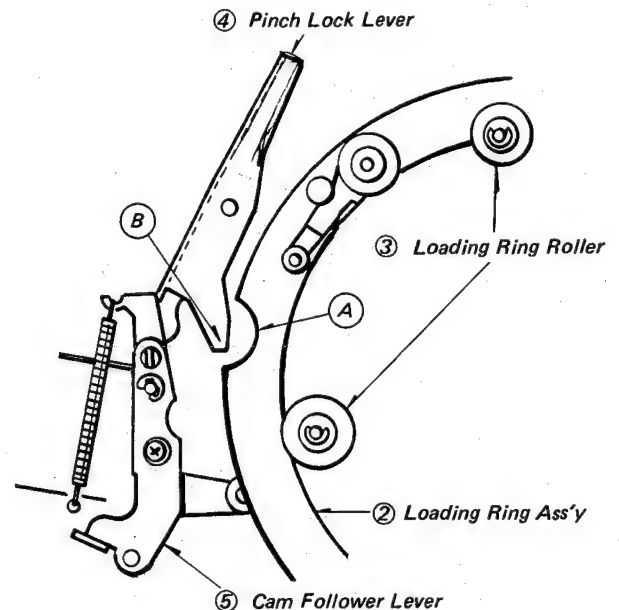
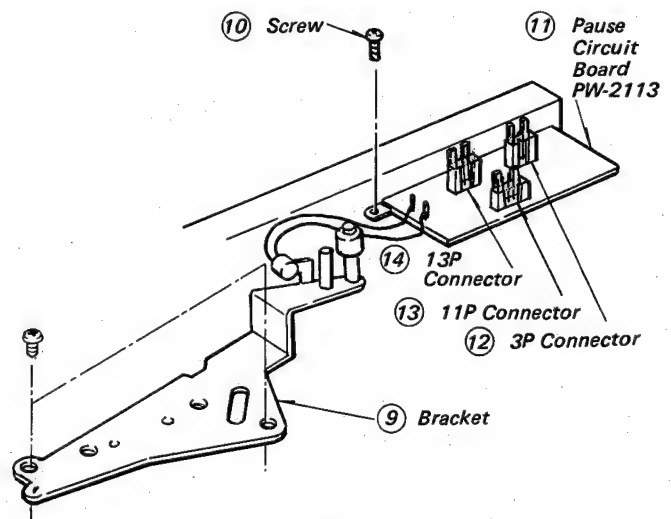

Fig. 5-60 Loading Ring Removal.
Fig. 5-61 Loading Ring Removal.
5. Turn the loading ring ② until the point A on the loading ring fits together with the point B on the pinch lock lever ④ (see Fig. 5-60).
8. Unsolder the wires on the pause board PW-2113 (see Fig. 5-61).
9. Unplug the 3P connector ⑫, 11P connector ⑬ and 13P connector ⑭ from the pause board PW-2113 (see Fig. 5-61).
10. Loosen the screw ⑩ and remove the Pause board PW-2113 (see Fig. 5-61).
11. Remove the two screws holding the bracket ⑨.
12. Replace the loading ring assembly ② in the position shown in Fig. 5-60.
CAUTION: In removing or installing the Bracket ⑨ (see Fig. 5-61), care should be taken not to damage the wires.
5-2-38 Replacing the Capstan Motor (see Fig. 5-61, 5-63)
3. Remove the guide pulley flat belt (1).
4. Remove the capstan flat belt (2) from the motor pulley (4).
5. Loosen the two set screws (10) holding the motor pulley.
6. Remove the motor pulley from the motor (5).
7. Unplug the connectors (13) (for power source and FG output) from the Servo and Logic Circuit Board PW-2110.
8. Unsolder the wires on the pause board PW-2113 (11) (see Fig. 5-61).
9. Unplug the 3P connector (12), 11P connector (13) and 13P connector (14) from the pause board PW-2113 (11).
10. Loosen the screw (10) and remove the Pause board PW-2113.
11. Remove the three screws (12) holding the motor (5) on the motor holder bracket (14).